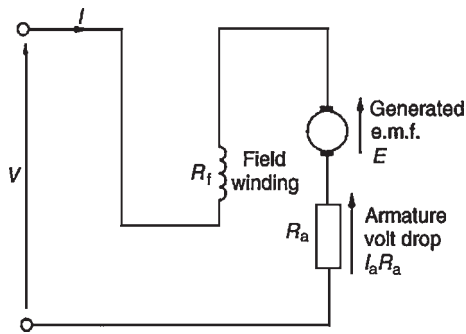

Figure 25.20
In the series-wound motor the field winding is in series with the armature across the supply, as shown in Fig. 25.20.
For the series motor shown in Fig. 25.20,
- (a) With reference to Fig. 25.20, generated e.m.f., E_1 at initial load, is given by